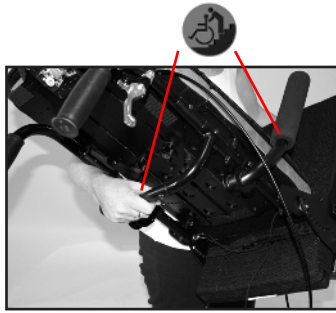

Fig. 12
2. With one hand, hold the seating module by the backrest handle bar located on the back of the seating module. Fig. 12